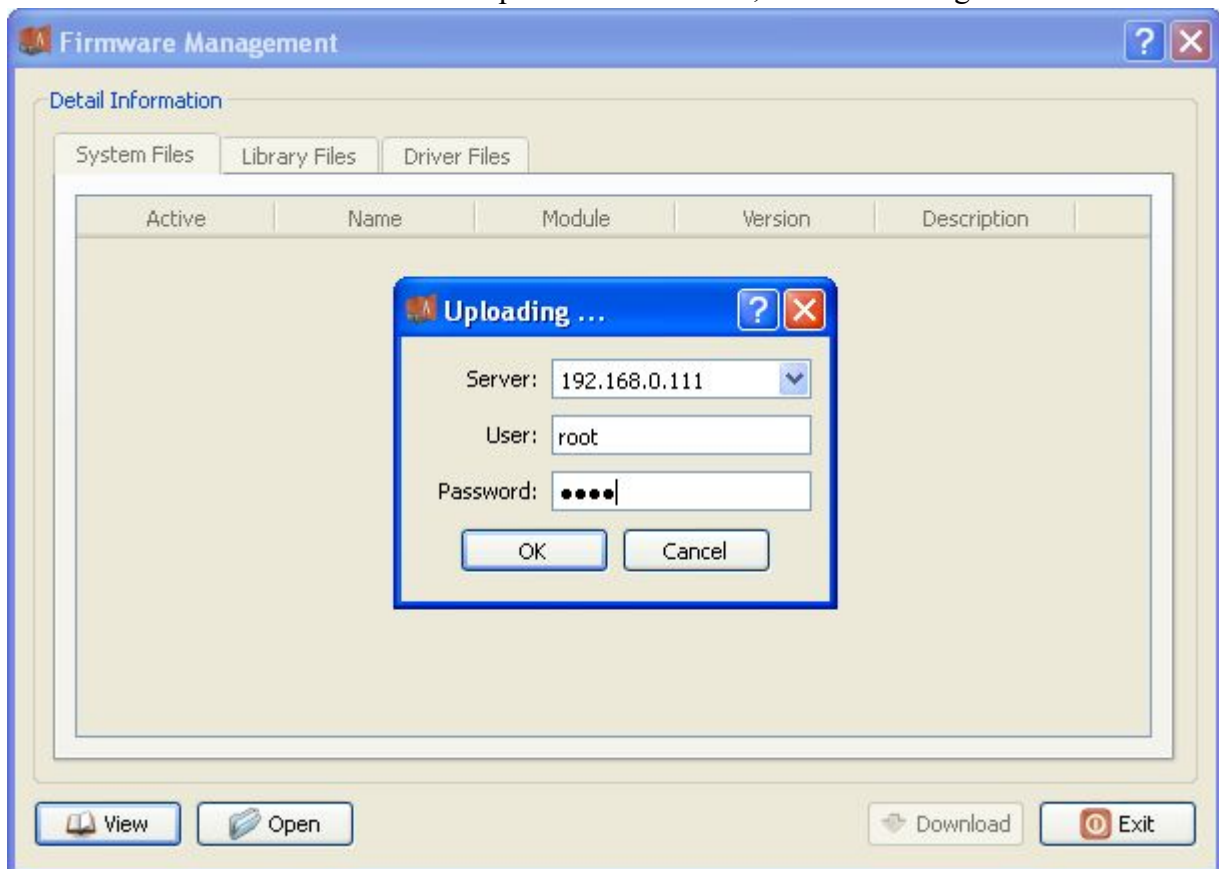

Figure 6.4 Query firmware
- Open the ICE configuration tool, click "Management" ->"Firmware" ->"View" on the menu bar, and input the corresponding server (i.e. the IP address of network port), for which both the username and password are "root", as shown in Figure 6.4.